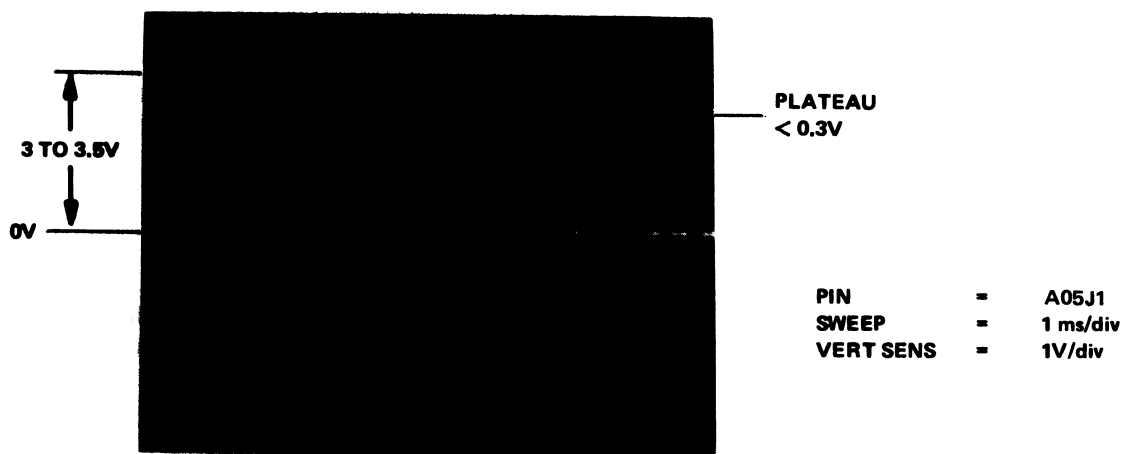

Figure 6-9 Outer Limit Waveform
- c. Set the scope vertical sensitivity to 1 V/div and observe A05J1 (LIMIT) for a scope display as illustrated in Figure 6-9. The waveform peak amplitude must be 3 to 3.5 V with a minimum level of 0 V. In addition, the voltage plateau immediately following the trailing edge must not exceed 0.3 V. If not, perform the Static Limit Adjustment procedure (Paragraph 6.2.2.2).
- c. Observe the track scale and note the cylinder indication when the "right on" waveform (Figure 6-9) is obtained. If the scale indicates less than 105, the head is too far forward in the carriage. Conversely, if the scale indicates more than 105, the head is back too far in the carriage.